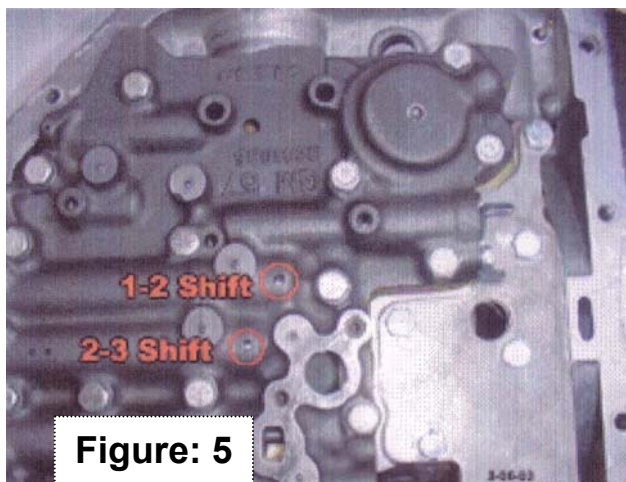

Figure: 5
Step 9: Note position of the 1-2 & 2-3 shift holes in valve body, (Figure 5).